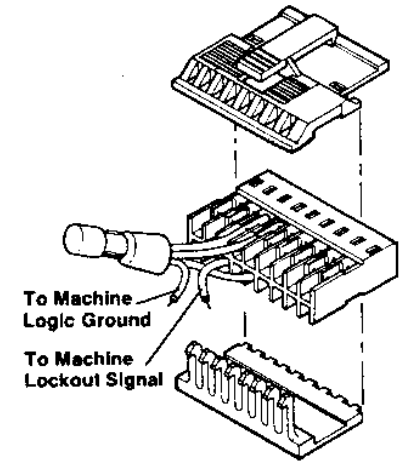

Figure 9. Lockout
- Connect the wire half from the connector to the machine lockout signal (Figure 9.)